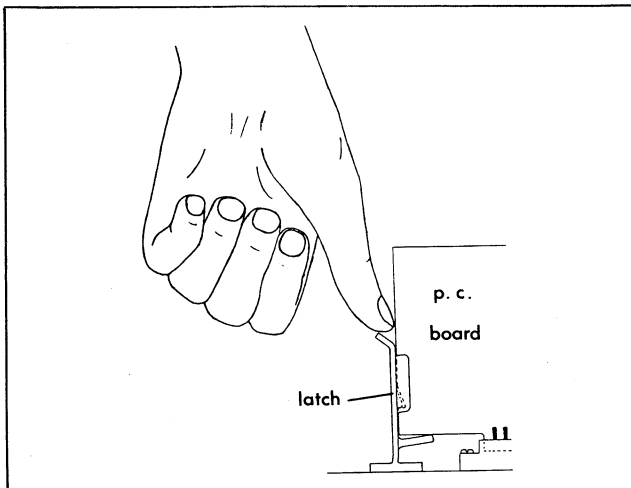

Figure 22. Latch
4. Remove Time Delay Board "A1" from its socket (Figure 22). Grasp board by edges and gently rock it loose.